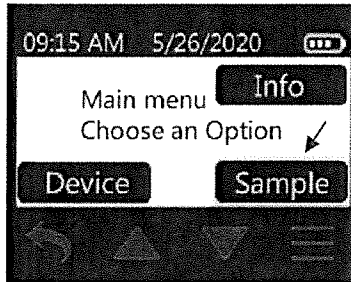

Figure 16. Sample Button
1. Press the main menu button (three Horizontal lines below the display) to get to the Main Menu and touch Sample (Figure 16).